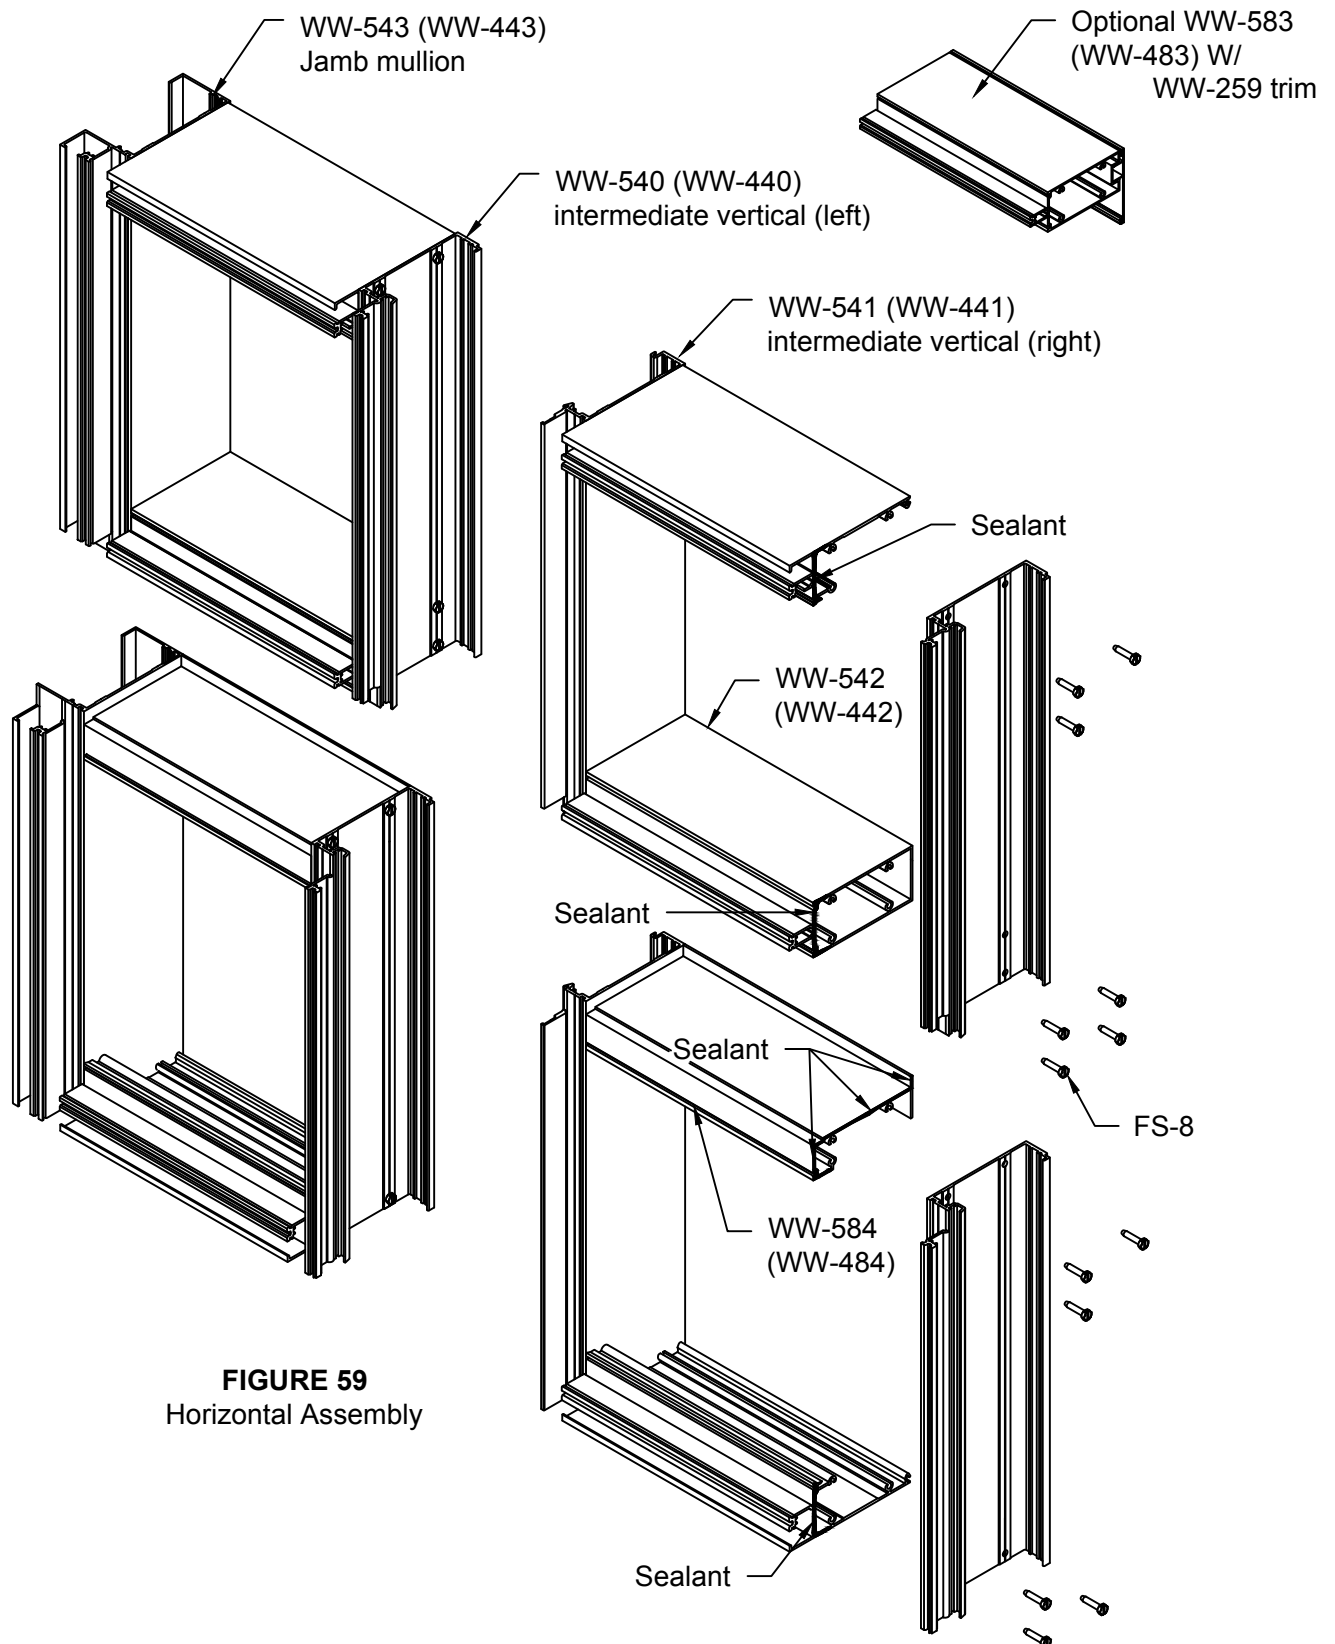

FIGURE 59
6.8 Assemble each frame with stack horizontals at top or bottom as shown in figure below. Lower section will be assembled with WW-584 (WW-484) horizontal located at top of unit, back leg of horizontal will be located flush with top of lower mullion. Upper frame section will use either typical WW-542 (WW-442) intermediate horizontal at bottom of assembly or for vision areas may use WW-583 (WW-483) horizontal with WW-259 snap-on interior trim. All horizontals will be attached to vertical mullions using FS-8 (#14 x 1 HHSTS). See **FIGURE 59**